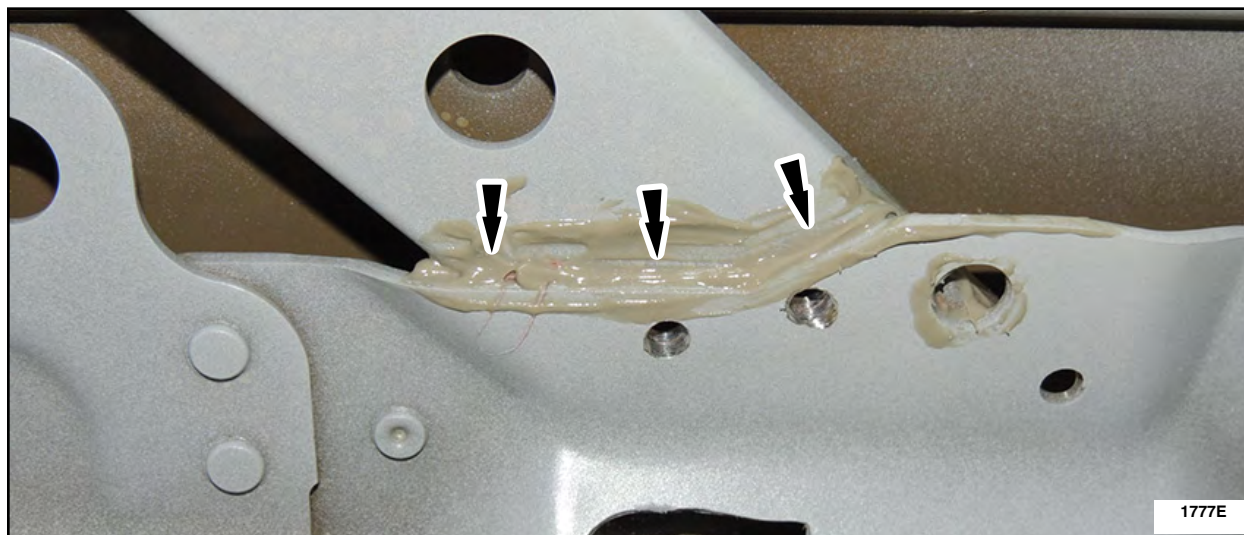

FIGURE 5
7. Apply metal panel bonding adhesive where the RH and LH roof K-brace meets the roof rail. See Figure 5.